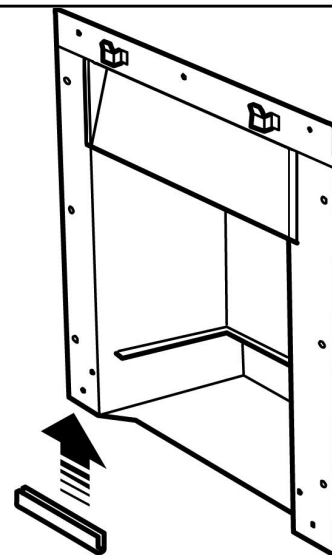

Figure 11. ‘U’ seals
2. Fit the two “U” section seals to the bottom edges of the hotbox side flanges (See figure 11).